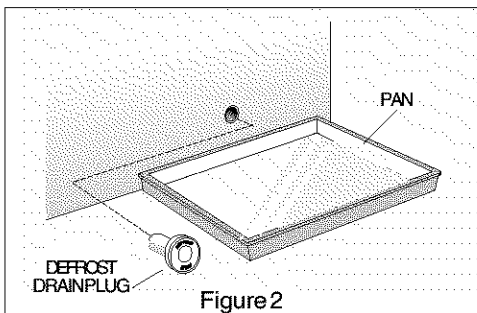
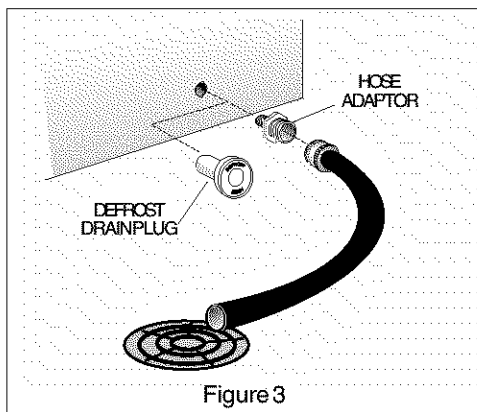
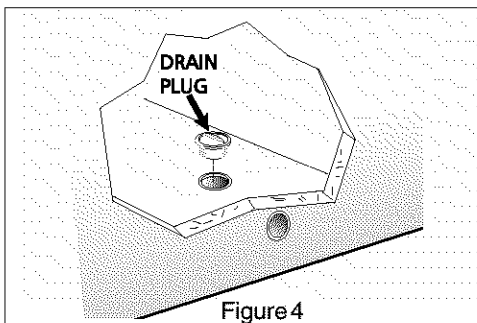

Figure 2
Figure 3
Figure 4
- **On chest models** with a defrost drain, place a shallow pan or the Divider/Drain Pan (some models) beneath the drain outlet (Figure 2). A $\frac{1}{2}$ inch garden hose adaptor can be used to drain the freezer directly into a floor drain (Figure 3). If your model is not equipped with an adaptor, one can be purchased at most hardware stores. Pull out the drain plug inside the freezer, and pull off the outside defrost drain plug (Figure 4). Defrost water will drain out. Check pan occasionally so water does not overflow. Replace the drain plugs when defrosting is completed.